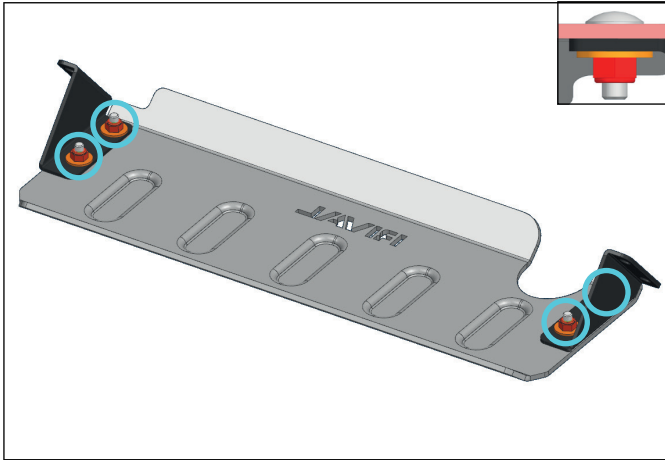

Fig. 1
1. Install mounting brackets (items 2,3) to skid plate (item 1) and secure them using bolts M10x1.5x30 (item B), washers M10 (item E) and nuts (item C) as shown in fig. 1.